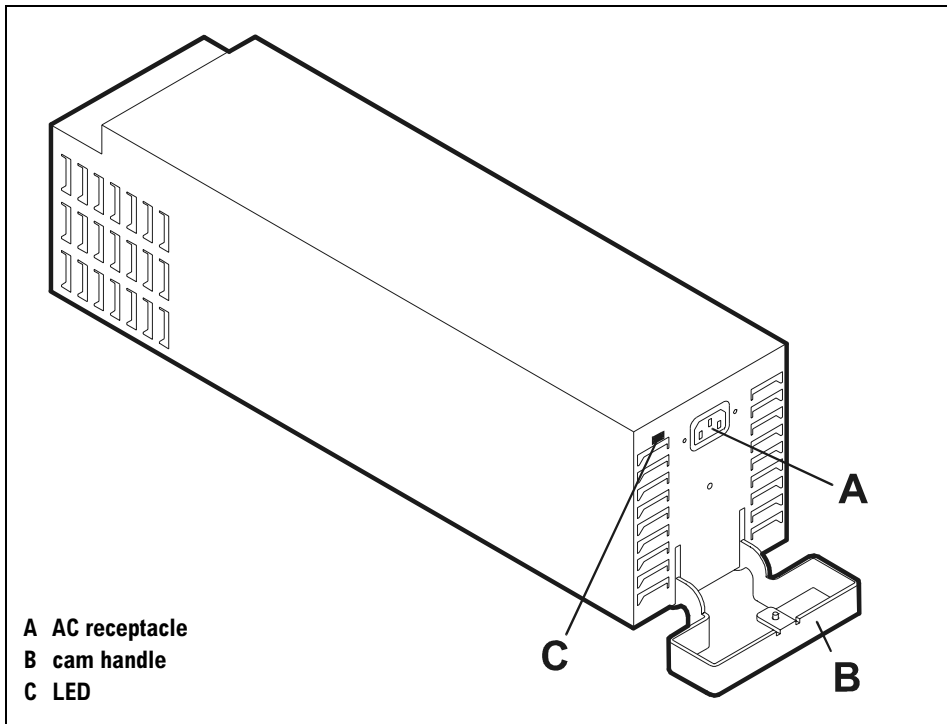

Figure 6 Power Supply
Redundant, hot-pluggable 450-watt power supplies convert wide-ranging AC voltage from an external main to stable DC output and deliver it to the system backplane. Each power supply has two internal blowers, an AC receptacle (A in Figure 6), a cam handle (B) with locking screw, and an LED (C). Internal control prevents the rear DC connector from becoming energized when the power supply is removed from the product.